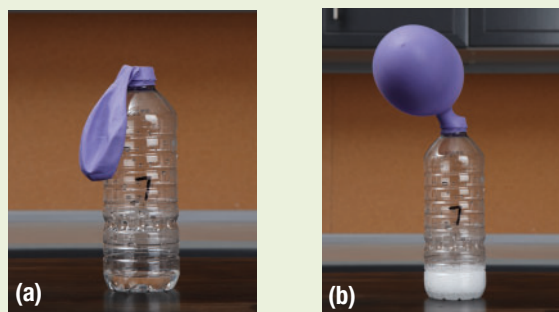

Figure 5 (a) Step 7 (b) Raising the balloon causes the baking soda to fall into the vinegar. Carbon dioxide from the resulting reaction inflates the balloon.
- Carefully stretch a balloon over the mouth of each bottle. Be careful not to allow the sodium hydrogen carbonate to fall into the bottle (**Figure 5(a)**).
- Raise the balloon on Bottle 1 so that its contents fall into the bottle (**Figure 5(b)**). Swirl to mix. Repeat with the other balloons. Record your observations.